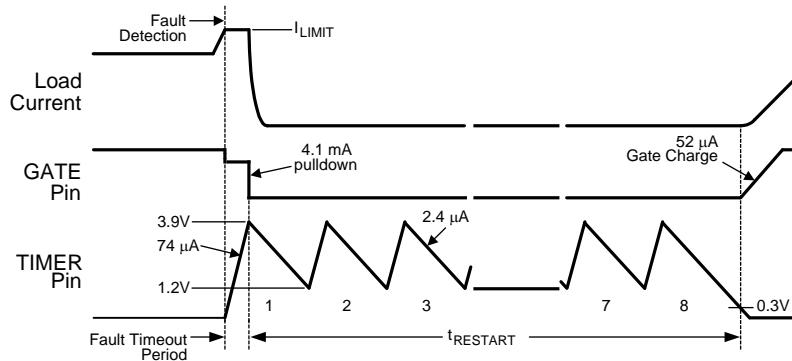

Figure 4. Restart Sequence
The LM5064 provides an automatic restart sequence which consists of the TIMER pin cycling between 3.9V and 1.2V eight times after the Fault Timeout Period, as shown in Figure 4. The period of each cycle is determined by the 74  $\mu$ A charging current, and the 2.4  $\mu$ A discharge current, and the value of the capacitor  $C_T$ . When the TIMER pin reaches 0.3V during the eighth high-to-low ramp, the 52  $\mu$ A current source at the GATE pin turns on  $Q_1$ . If the fault condition is still present, the Fault Timeout Period and the restart sequence repeat. The RETRY pin allows selecting no retries or infinite retries. Finer control of the retry behavior can be achieved through the DEVICE\_SETUP (D9h) register. Retry counts of 0, 1, 2, 4, 8, 16 or infinite may be selected by setting the appropriate bits in the DEVICE\_SETUP (D9h) register.
**C) Restart Timing** For the LM5064, after the Fault Timeout Period described above,  $C_T$  is discharged by the 2.4  $\mu$ A current sink to 1.2V. The TIMER pin then cycles through seven additional charge/discharge cycles between 1.2V and 3.9V as shown in Figure 4. The restart time ends when the TIMER pin voltage reaches 0.3V during the final high-to-low ramp. The restart time, after the Fault Timeout Period, is equal to: